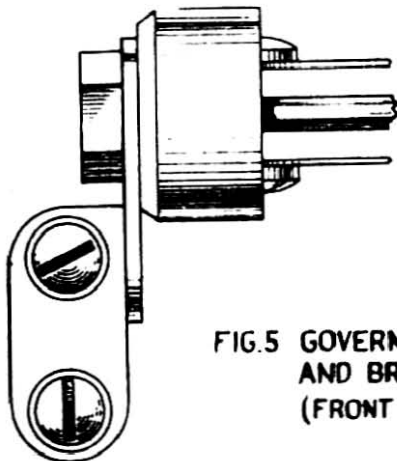

FIG. 5 GOVERNOR CUP
- .1 The governor wings should be free from kinks or bows and, as an initial adjustment they should be set slightly inwards by means of Tool Switchboard 74. The governor cup fixing holes are elongated, to enable the cup to be positioned to give the best running position for the governor, i.e. the cup should be square with the governor when observed from the angles shown in Figs 5 and 6.